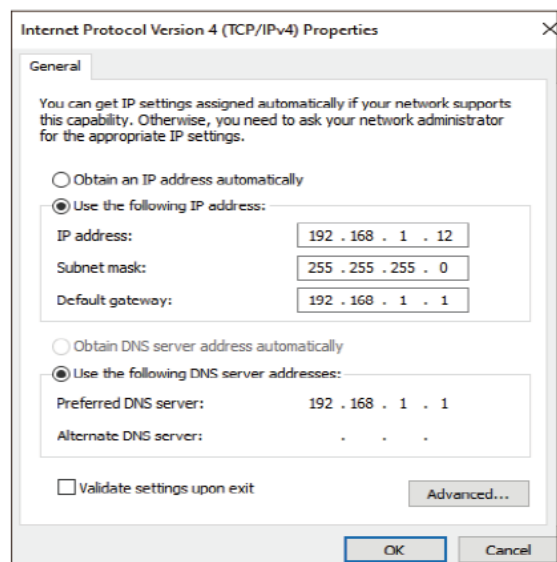

Figure 4.5
3. Set the IPV4 address of the PC to obtain automatically and access the LAN, as shown in Figure 4.5.